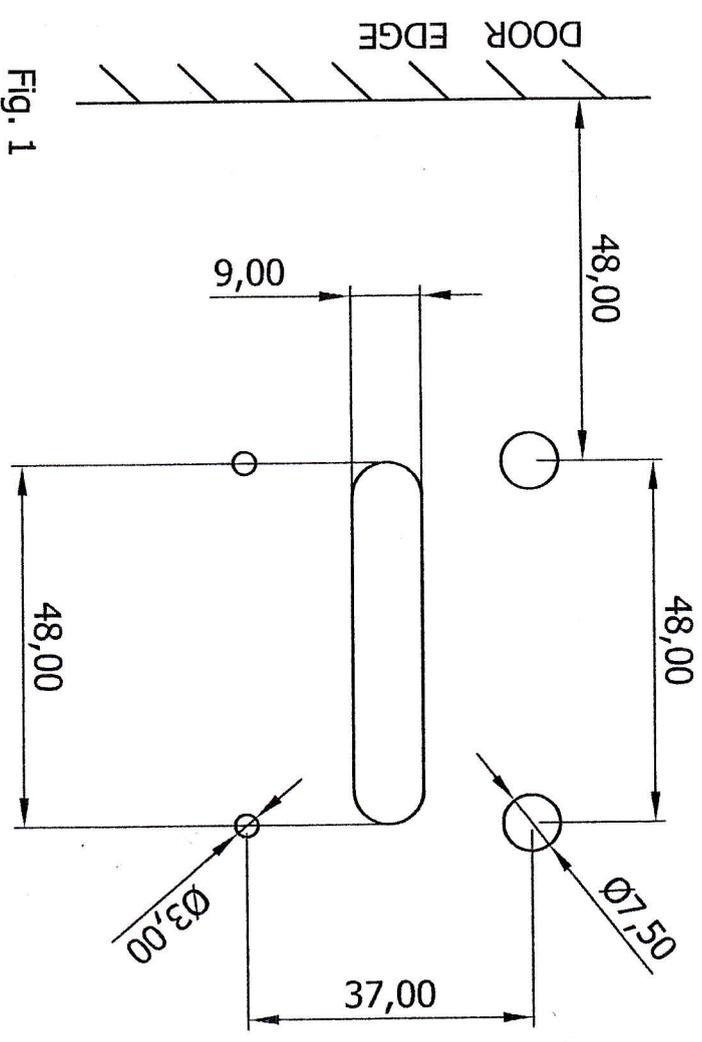

Fig. 1
1. Drill door in chosen position as shown in FIG1.